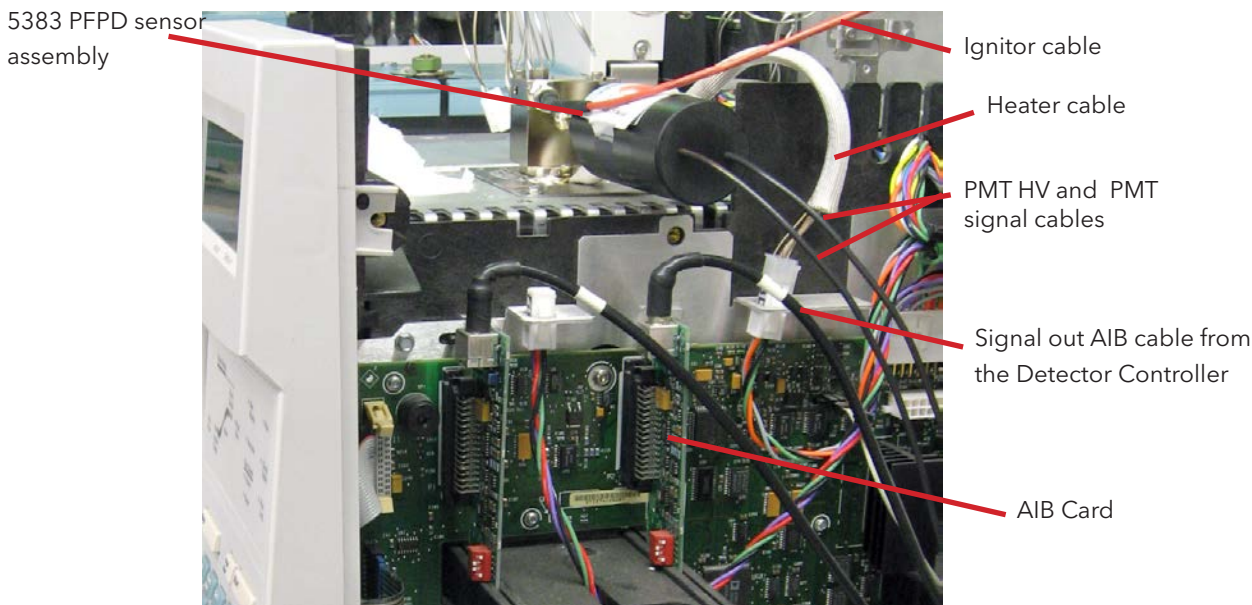
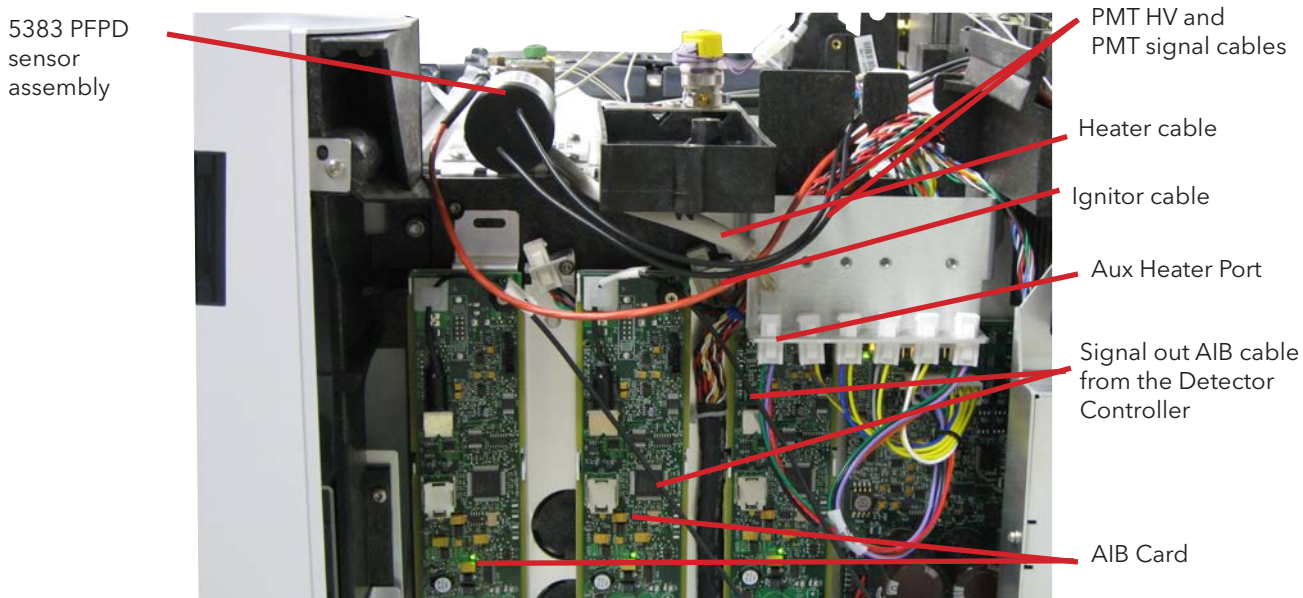

Figure 3.5. Placing the PFPD in the Agilent 6890 and attaching the heater cable
Figure 3.6. Placing the PFPD in the Agilent 7890 and Attaching the Heater Cable
4. Carefully press the PFPD assembly and surrounding insulation into the previously hollowed-out insulation plug in the selected detector port (Figure 3.5 for Agilent 6890 and Figure 3.6 for Agilent 7890). Do not excessively bend the leads protruding from the heater element and temperature sensor. Ensure the detector base protrudes into the GC oven cavity and that the detector mounting plate is flush with the metal cover in the detector area.
3. Screw the Aux Temperature Zone Bracket (valve driver bracket) into the right side of the GC using the two captive screws. Refer to Figure 3.6 for the location.
1. Connect the heater cable connector to the corresponding four-pin nylon connector located to the right of the detector port above the motherboard in the Agilent 6890 (Figure 3.5) or Agilent 7890 (Figure 3.6).
2. For a 7890 equipped with an Aux EPC module, plug the PFPD heater cable into the Aux temperature heater port (Figures 3.6 and 3.7).
2. Connect the opposite end of this cable to the appropriate connector on the chromatographic data system signal input (see Figures 3.5 and 3.6 for the AIB connector).